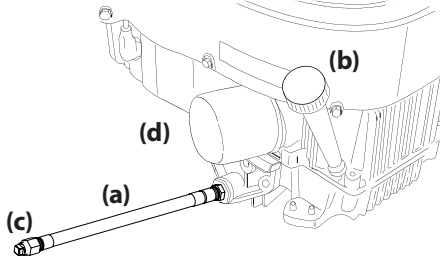

Figure 39
3. While holding the free end of the oil drain hose over the oil collection container, unscrew the square head hose plug (c) from the end of the oil drain hose. See Figure 39. Drain the engine oil into the collection container.